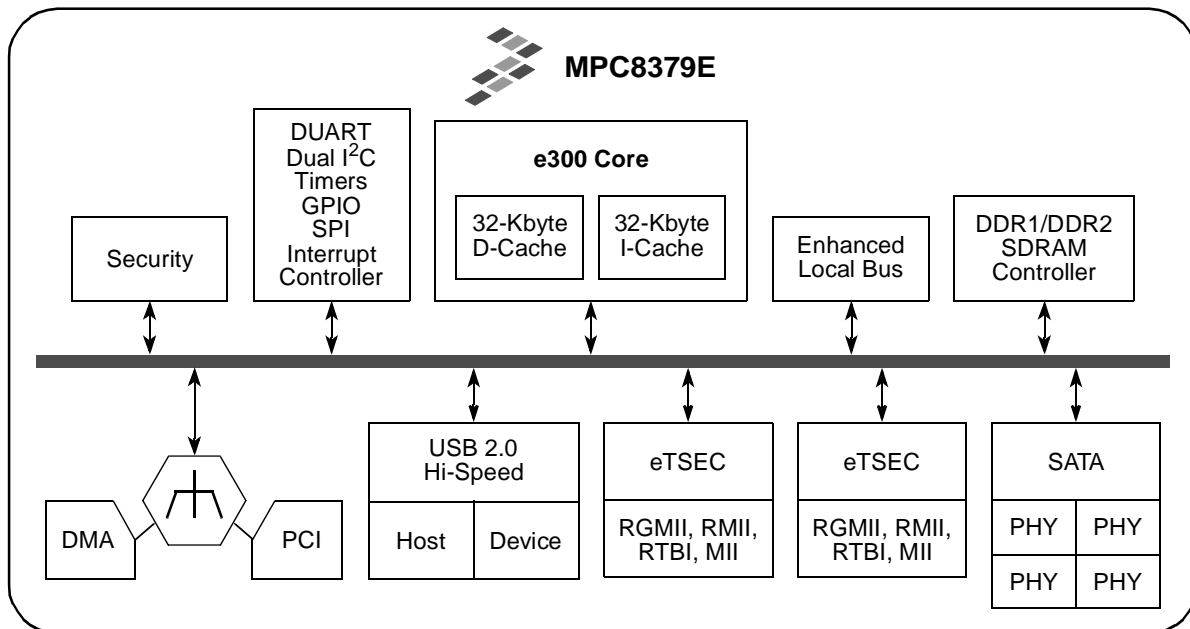

Figure 1. MPC8379E Block Diagram and Features
2.0 dual-role controller, a programmable interrupt controller, dual I²C controllers, a 4-channel DMA controller, an enhanced secured digital host controller, and a general-purpose I/O port. The block diagram of the MPC8379E is shown in Figure 1.